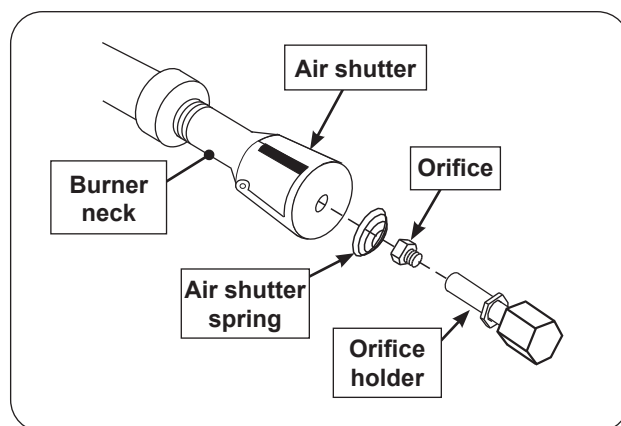

Fig. 39-3 Burner replacement diagram
12. To re-install, position the air shutter spring and air shutter over the orifice holder fitting, between the burner and the heat shield, in the order and position shown in Fig. 39-3. Do for both burner necks.